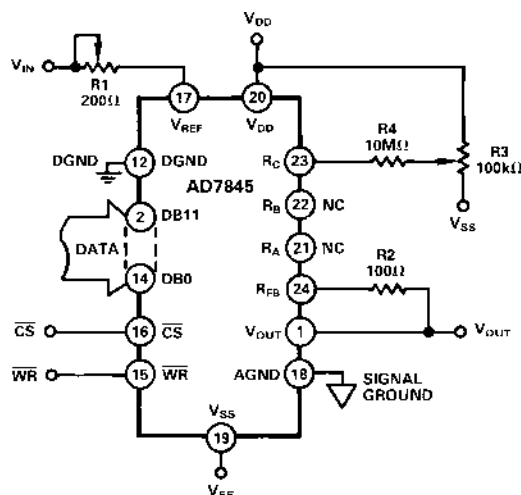

Figure 13. Unipolar Binary Operation
Gain error is a measure of the output error between an ideal DAC and the actual device output with all 1s loaded after offset error has been adjusted out. Gain error is adjustable to zero with an external potentiometer. See Figure 13.
Figure 13 shows the AD7845 connected for unipolar binary operation. When  $V_{IN}$  is an ac signal, the circuit performs 2-quadrant multiplication. The code table for Figure 13 is given in Table I.
### OFFSET AND GAIN ADJUSTMENT FOR FIGURE 13
**Temperature Coefficients:** The gain temperature coefficient of the AD7845 has a maximum value of 5 ppm/°C. This corresponds to worst case gain shift of 2 LSBs over a 100°C temperature range. When trim resistors R1 and R2 in Figure 13 are used to adjust full-scale range, the temperature coefficient of R1 and R2 must be taken into account. The offset temperature coefficient is 5 ppm of FSR/°C maximum. This corresponds to a worst case offset shift of 2 LSBs over a 100°C temperature range.